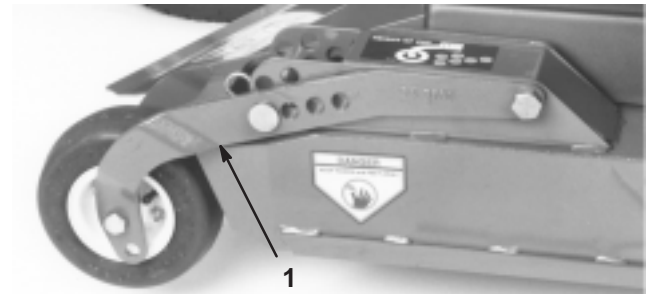

Figure 12
1. Remove hairpin cotter and H.O.C. pin securing rear castor pivot arm to deck bracket (Fig. 12).